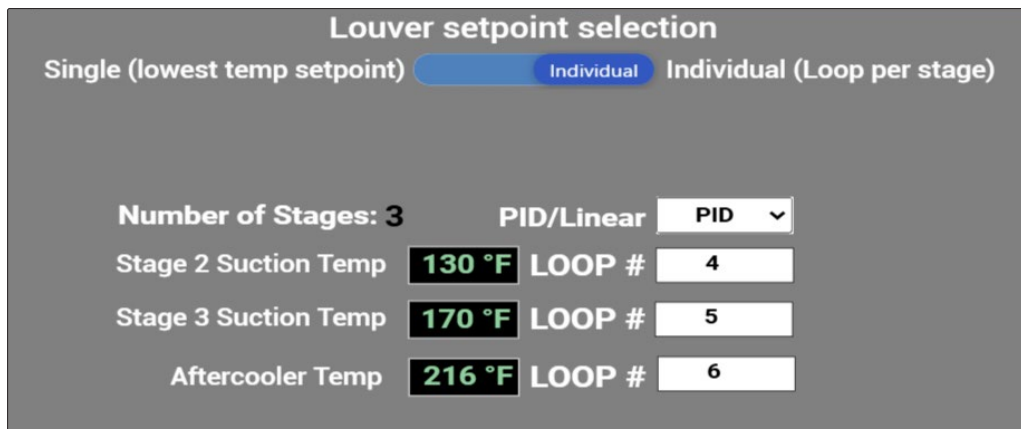

Figure 46
5. In the Louver Setpoint Selection section, assign the temperature setpoint for the Liquids Prevention feature. See Figure 46. Refer to section 4.2.2 Liquids Prevention on page 9 for detailed instructions.